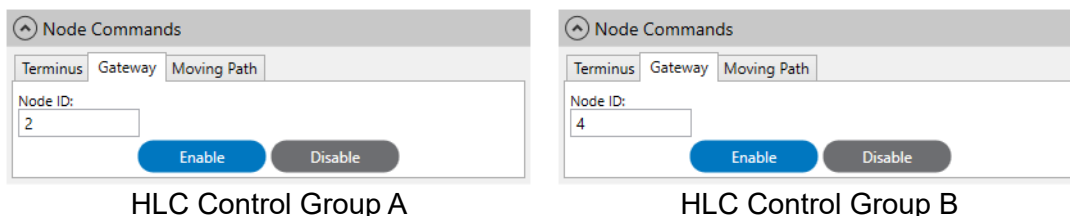

Figure 2-70: Enable a Gateway Node
1. If the Gateway Nodes are not enabled, setup each Gateway Node for vehicle transit using the *Gateway Tab* in the Node Commands section as shown in Figure 2-70.